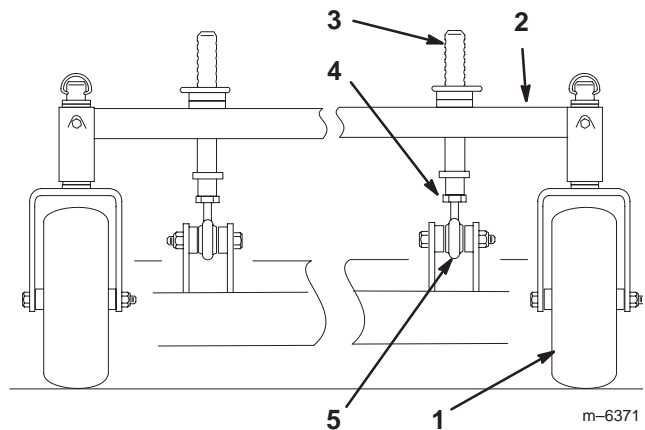

Figure 66
1. To change the front-to-rear pitch, the front height-of-cut posts can be adjusted (Fig. 66).
2. To raise the front of the deck, loosen jam nut and rotate the front pin clockwise (Fig. 66).
3. To lower the front of the deck, loosen jam nut and rotate the front pin counter clockwise (Fig. 66).